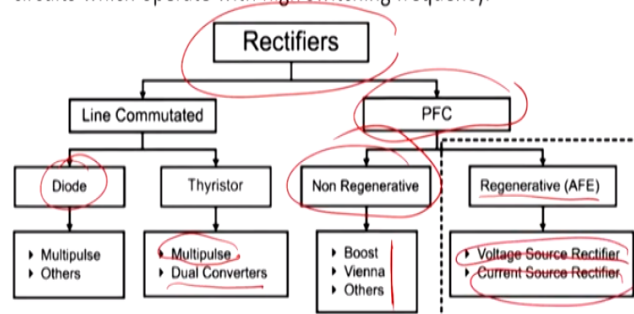

Fig.1: Classification of Rectifiers
- As shown in Fig. 1 ac-dc converters can be classified between topologies working with low switching frequency (line commutated) converter and other circuits which operate with high switching frequency.
So this is overall AC to DC converter and rectifier and this is a figure 1 of AC to DC